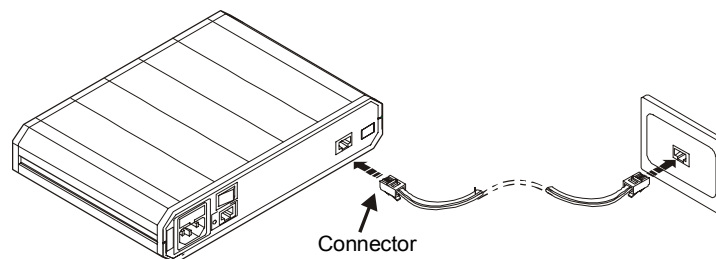

Figure 2-5. Connecting to the Public Access Service
2. Attach the other side of the cable to the wall outlet. *Figure 2-5* shows connection to the Public Access Service.